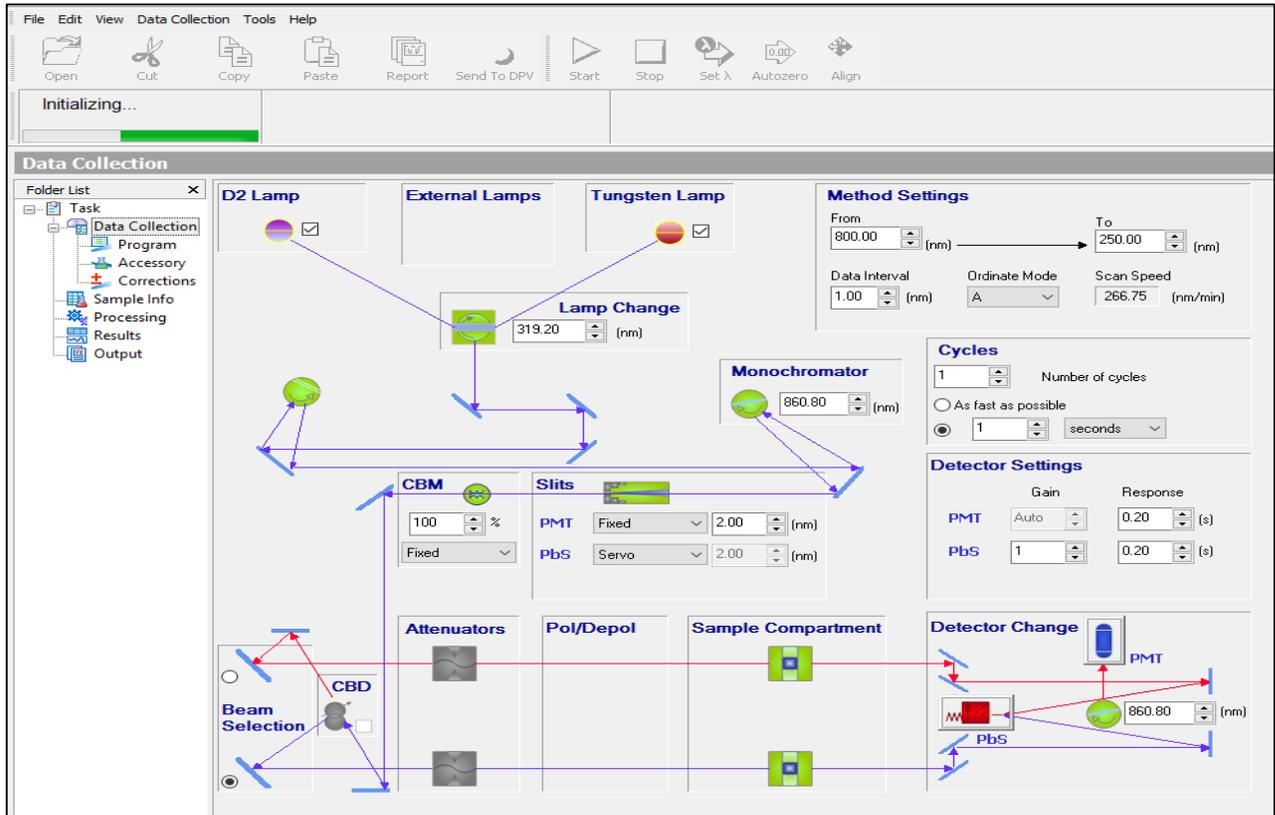

Figure 2: The menu for setting the parameters for operations on the Lambda 950. Some settings may not be available for modification in all menus.
- a. To do this, select the *Align* icon and observe the spot location as shown in Figure 2.
Notice: It can be helpful to attenuate the reference beam path in high absorbance materials so that the reference signal does not swamp the desired signal for analysis. Note the attenuator setting in Figure 2